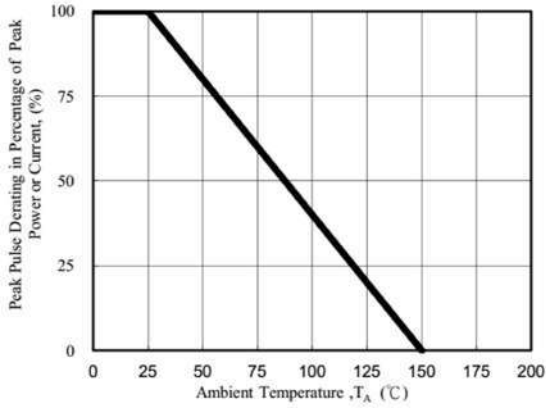
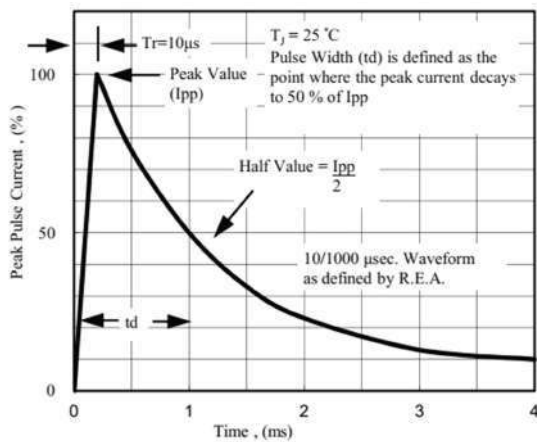

Fig. 1 Pulse Derating Curve
Fig. 5 Pulse Waveform
- (1) Non-repetitive current pulse, per Fig.5 and derated above $T_A = 25^\circ\text{C}$ per Fig.1.
- (2) Measured on 8.3ms single half sine-wave, or equivalent square wave, duty cycle = 4 pulses per minutes maximum.